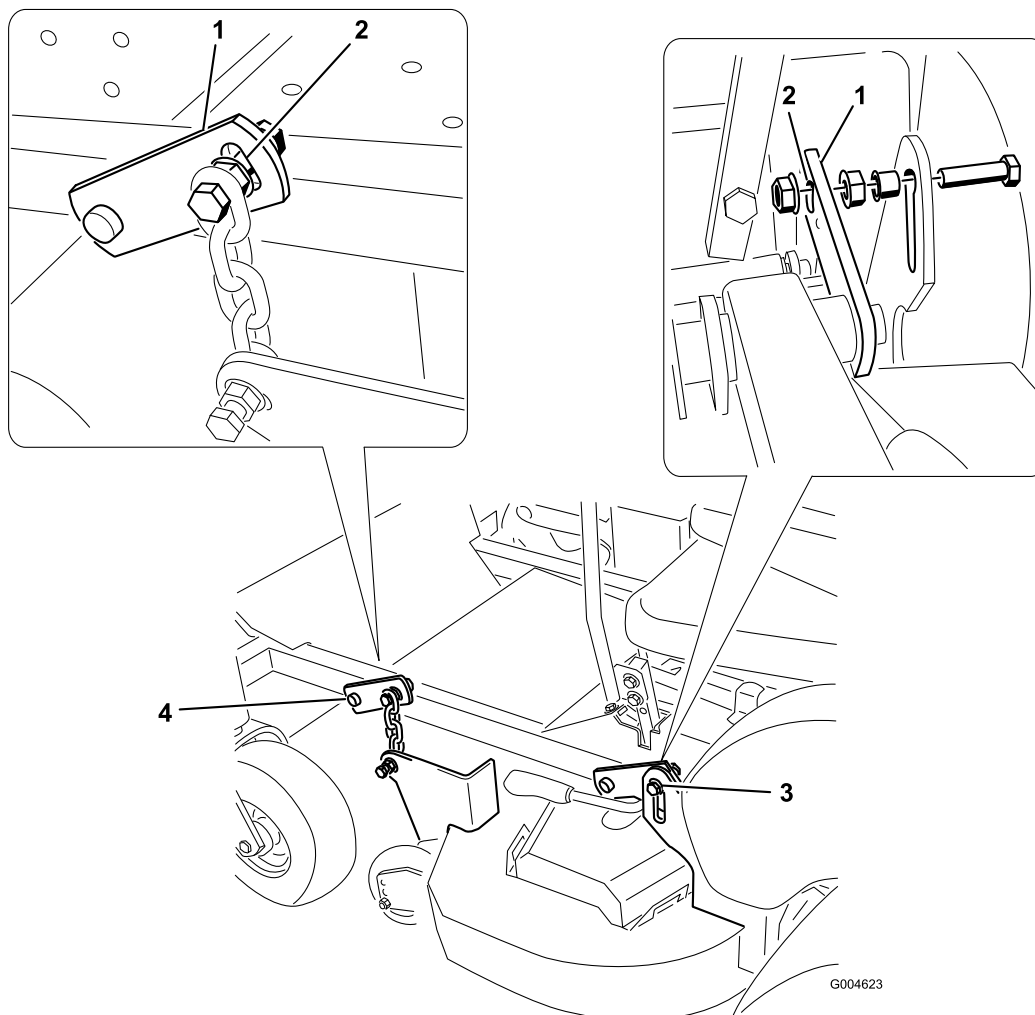

Figure 52
7. Loosen the bolts connecting the two chains and the two rear brackets to the mower (Figure 52).
8. Adjust the two rear bolts so they are in the middle of the slot located in the pivot bracket (Figure 52).
10. Adjust the discharge side front bolt so it is in the middle of the slot located in the pivot bracket (Figure 52).